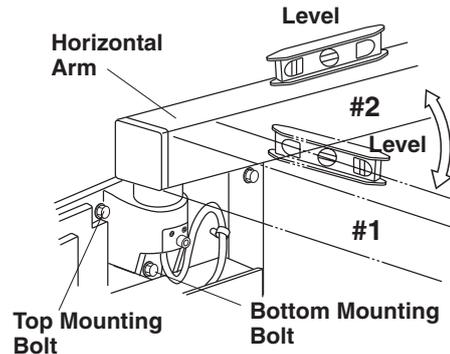

Fig.4-1 Horizontal Arm Adjustment
1. Incorrect leveling of the wall plate and wall bracket can cause arm drift. First, check leveling with horizontal arm in position #1. (Fig.4-1) If not correct, bracket must be adjusted by placing shims behind the wall plate.
2. Check leveling in position #2. If not correct, adjust Horizontal Arm as follows : (Fig.4-1)